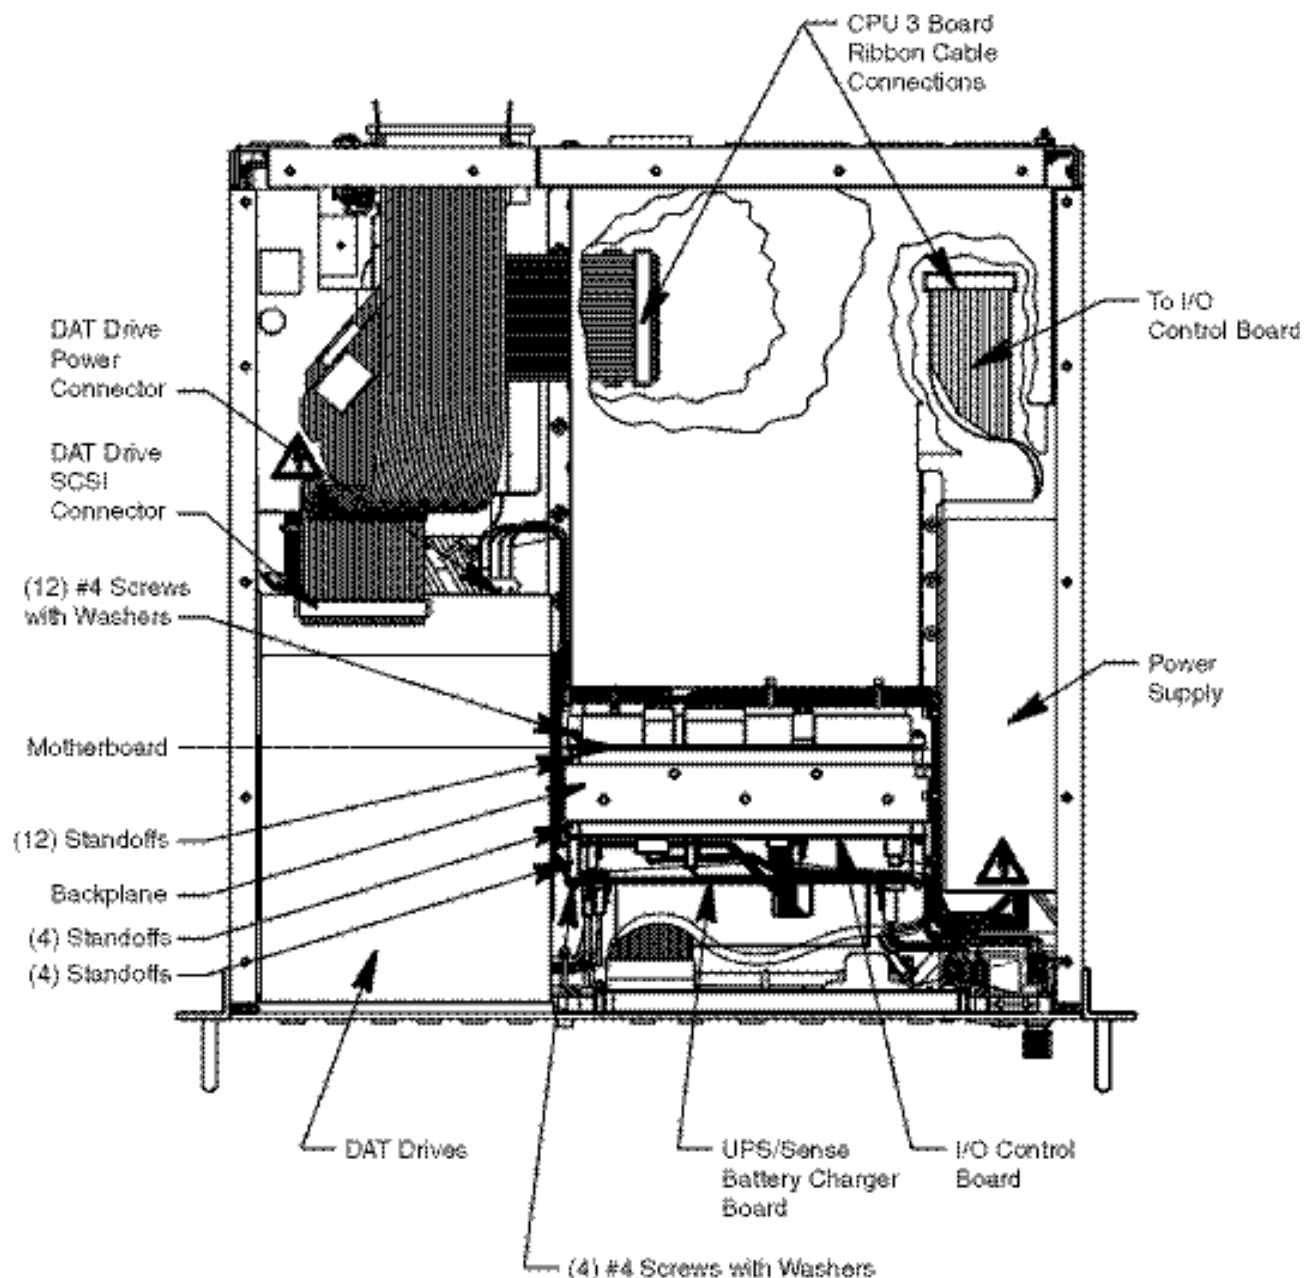

**Figure 5-8. Backplane Bracket Location on Bottom Chassis**
- (1) Remove backplane with PCBs.
- (f) Turn unit on side and remove five #6 screws holding backplane bracket to chassis (Figure 5-8). Do not let PCBs drop while removing screws and lifting PCBs out of chassis.
- (1) Attach PCBs to backplanes as follows:
- (2) Install backplane with PCBs as follows:
- (b) Install backplane with PCBs into unit and secure to bottom of chassis (Figure 5-8) with five #6 screws.
- (1) Remove top cover (para. 5-6).